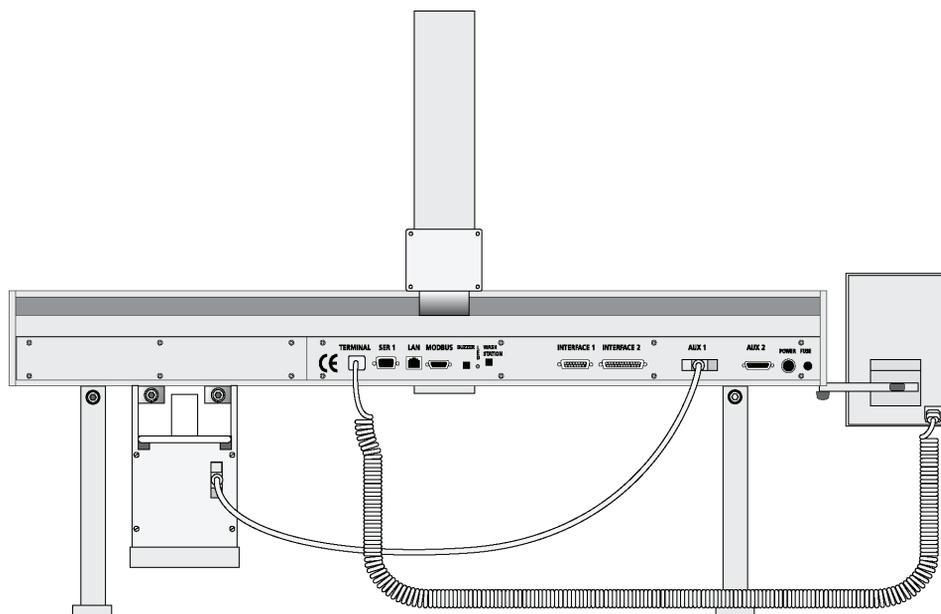

Figure 17 Electrical Connections for GC Sampler
- 1 Before defining the module object positions, make sure the Keypad Terminal is correctly connected to the module X-axis rear side (see Figure 17).